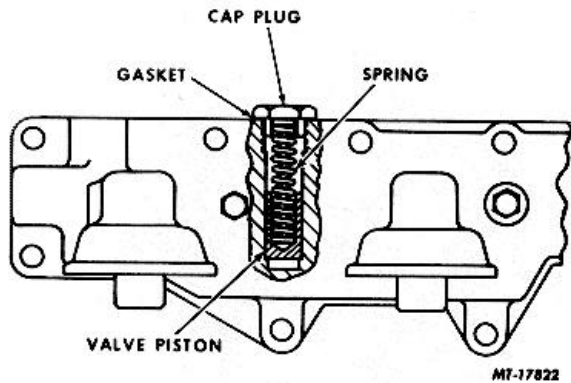

Fig. 145 Piston Cooling Valve Details
1. Remove piston cooling valve cap plug from base and remove valve spring and piston (Figure 145).